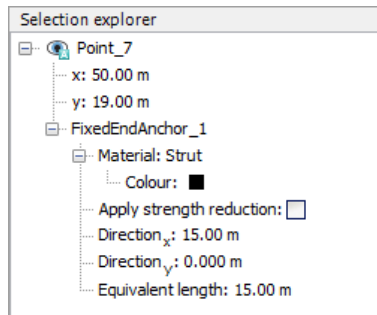

Figure 2.4 Parameters for fixed-end anchors in the *Selection explorer*
- Enter an *Equivalent length* of 15 m corresponding to half the width of the excavation (Figure 2.4).